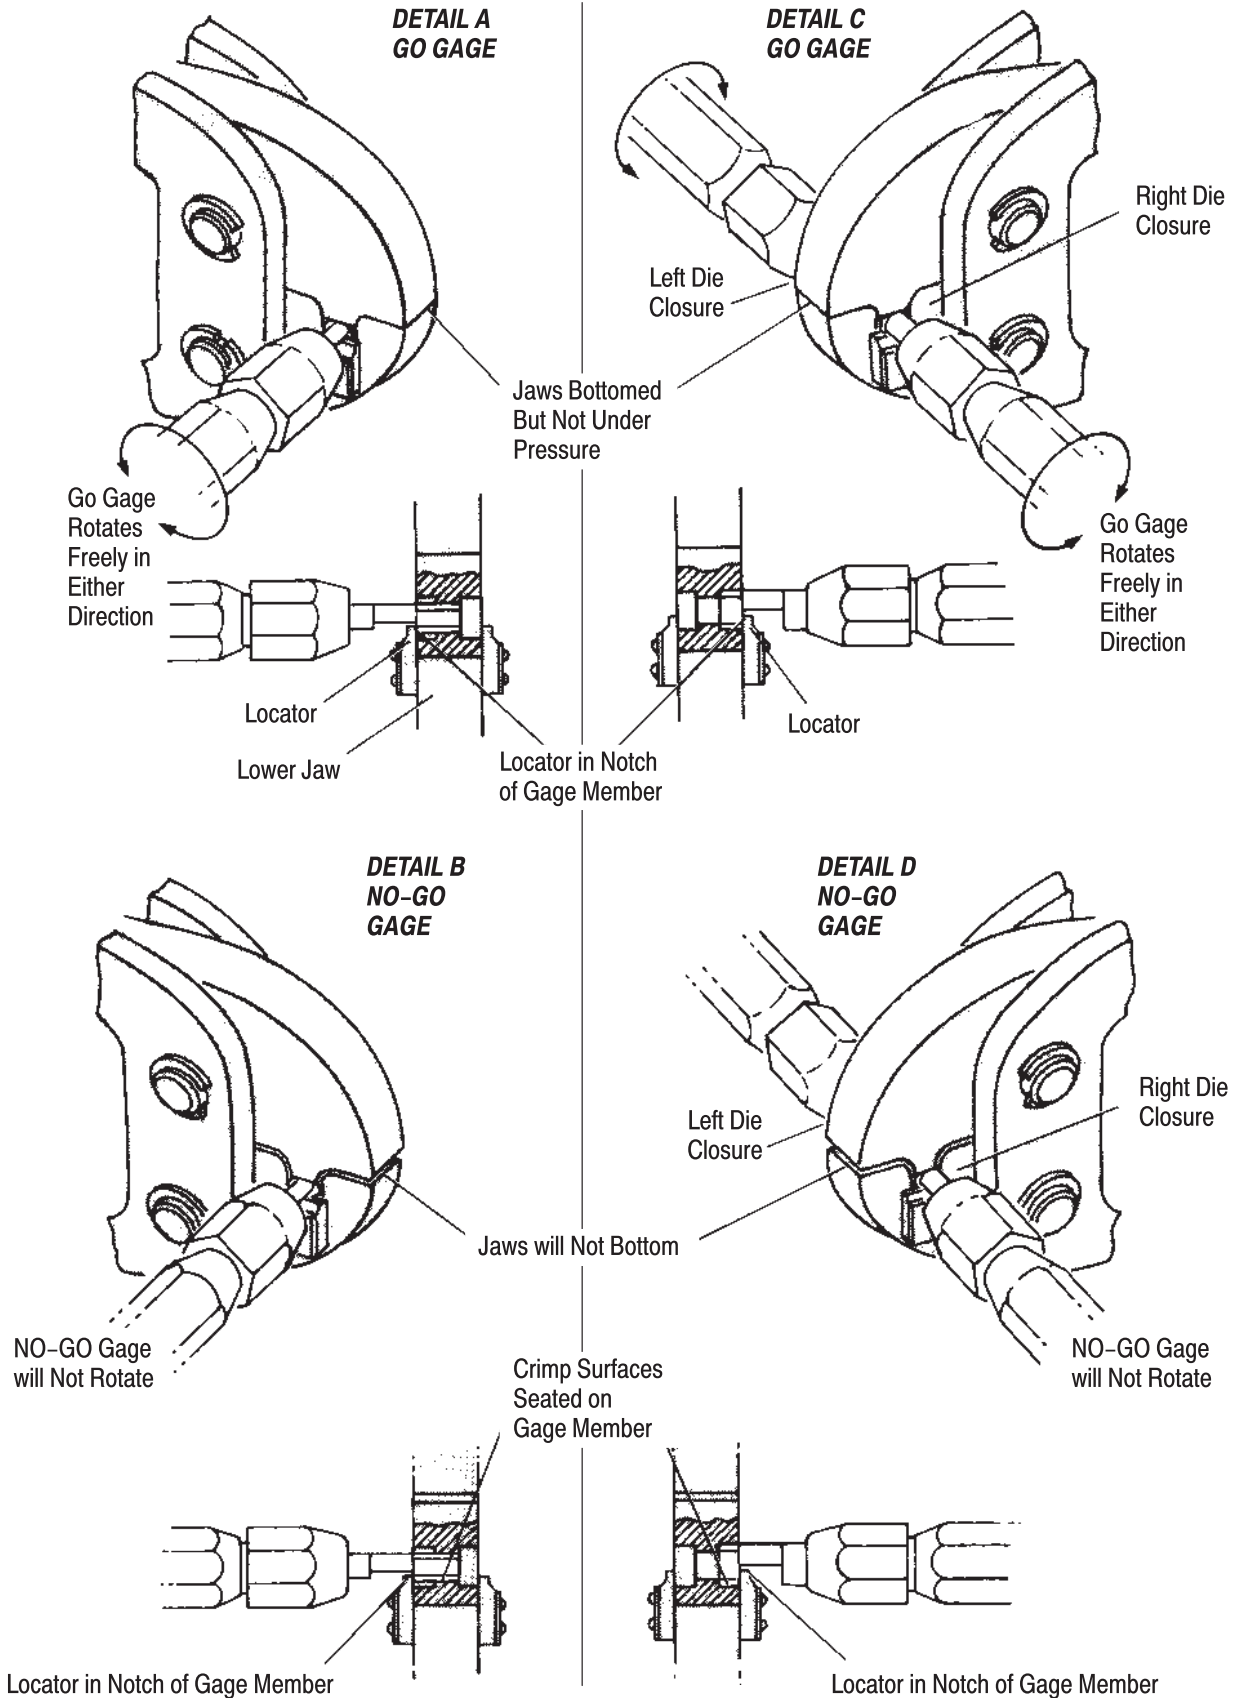

Figure 9
locator is in notch of gage member. See Figure 9, Detail A.
4. To meet the GO gage conditions, the plug gage must be free to rotate in either direction as shown in Figure 9, Detail A.
5. Select the proper NO-GO gage. Position gage member in lower jaw inner crimp closure so that locator is in notch of gage member. See Figure 9, Detail B.
7. To meet the NO-GO gage conditions, jaw bottoming surfaces will NOT bottom, and NO-GO gage member will be held stationary (will not rotate) by the dies. See Figure 9, Detail B.
8. Inspect the right and left outer crimp closures in the same manner as steps (2) thru (7). See Figure 9, Details C and D.